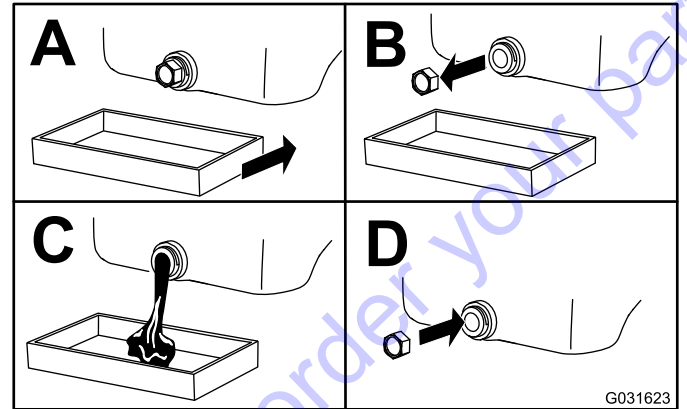

Figure 27
- A. Remove the drain plug and allow all of the existing oil to drain out of the engine (Figure 27).
B. Install the drain plug (Figure 27). Torque the plug to 13.6 N·m (10 ft-lb).